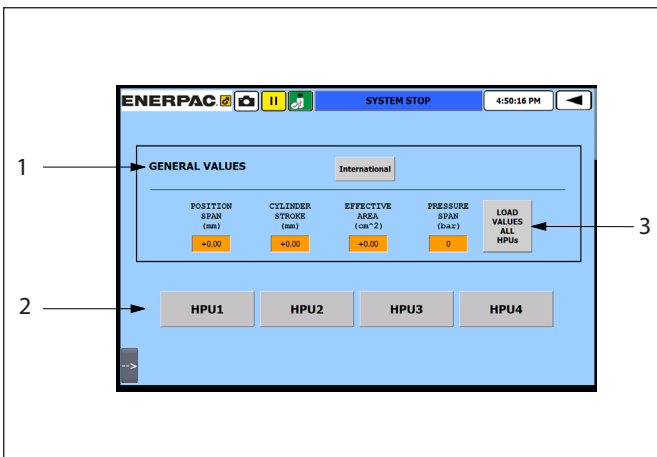
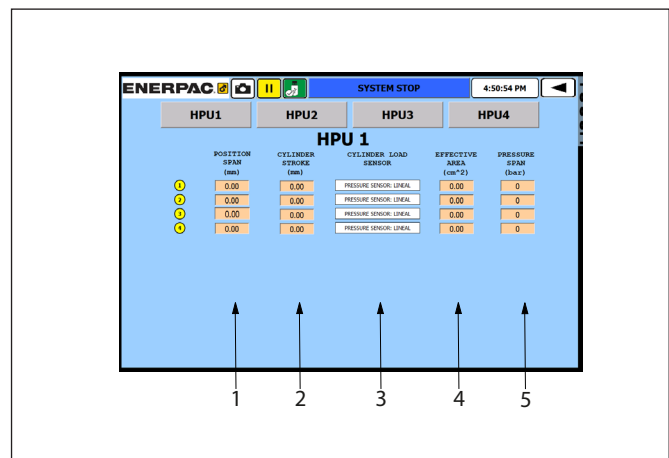

Figure 49: EVO Spans Screen
Figure 50: EVO Spans Parameters Screen
2. Hydraulic power unit: The user can select the HPU to apply the parameters (see Figure 50).
The user can access to the Spans Parameters screen pressing on the HPU icon (refer to Figure 49, item 2). In the boxes the user can type the following data (refer to Figure 50):